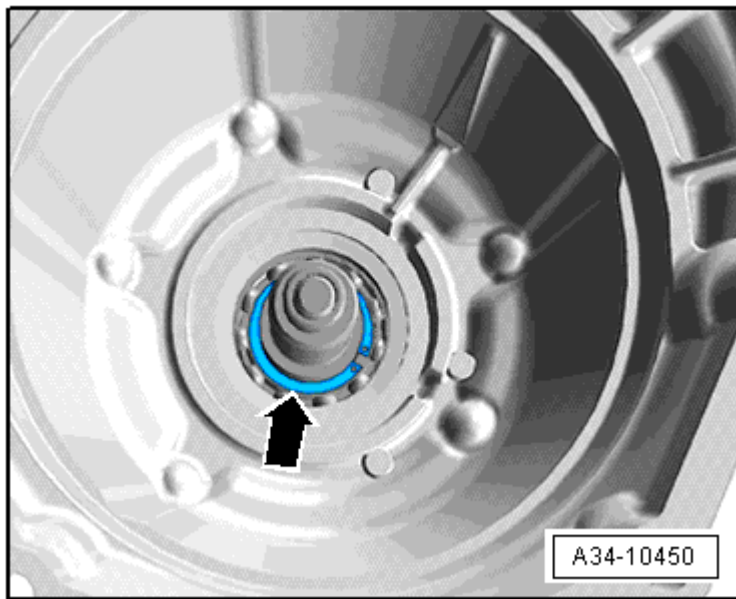

Fig. 47: Removing Locking Ring -Arrow-
- Removing and Installing, refer to **Fig. 47**
- Remove the circlip before remove the flange shaft. Refer to **Fig. 47**.